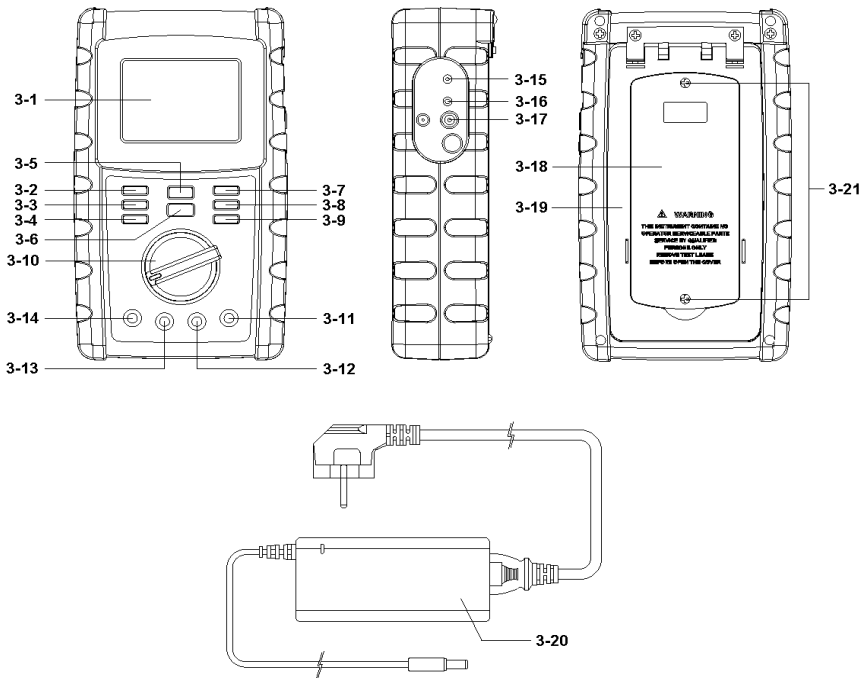

Fig. 1
- 1) Power on the instrument by rotate the "Power / Range rotary switch" ( 3-10, Fig. 1 ) to exit the " OFF " position and then select measuring range from 60000  $\mu\Omega$  to 6000  $\Omega$  according to your requirement.
- \* **At 60000  $\mu\Omega$  ( 10A ) must use DC 9V adapter from socket ( 3-17, Fig. 1 ).**
- \* Red cable ( with white O ring marker ) to " Force + " terminal ( 3-11, Fig. 1 )
- \* Red cable ( no white O ring marker ) to " Sense + " terminal ( 3-12, Fig. 1 )
- \* Black cable ( with white O ring marker ) to " Force - " terminal ( 3-14, Fig. 1 )
- \* Black cable ( no white O ring marker ) to " Sense - " terminal ( 3-13, Fig. 1 )
- 4) Press the "START / STOP" key ( 3-6, Fig. 1 ) will start measure the unknown device.
- 5) When your tested material has inductive, you can press " L/▲ " key ( 3-7, Fig. 1 ) for change to inductor mode ( at 600 mΩ and 60000 uΩ range ) , Display will showing " L " mark. normal is resistor mode.
Primary to press the " SET / TEST " ( 3-4, Fig. 1 ) button enter setting mode.
The last digit should flash at " Hi warning value " on the display . Then press " L / ▲ " buttons ( 3-7, Fig. 1 ) to increase or " COMP / ▼ " buttons ( 3-9, Fig. 1 ) to decrease digit that you want to alter large value,
press the " BEEP / ◀ " buttons (3-8 , Fig. 1) set warning value , When user to move 1st digit unit to next digit unit (10th, 100th. 1000th).
Finished (1) procedure then press the " SET / TEST " button ( 3-4, Fig. 1 ) again, The last digit should flash at " Lo warning value " on the display . Other operate way same above explain.
3) Finished (1)(2) procedure then press the " SET / TEST " button ( 3-4, Fig. 1 ) once . The function should return to TEST MODE and indicate measure value when clipping the resistor.
4) When measuring period press " COMP / ▼ " ( 3-9 , Fig. 1) button once, The display will show " GOOD " or " FAIL " symbol to inform be measure results.
*\* Press " BEEP / ◀ " ( 3-8, Fig. 1) button once will start buzzer, press once again to disable " BEEP " function.*
- 3)Press " HOLD " button ( 3-5, Fig. 1 ) to release HOLD status.
- 4)Press " SET / TEST " button ( 3-4 , Fig.1) more than three seconds into sample unit mode.
- 5)Then press " L / ▲ " button ( 3-7 , Fig.1) or " COMP / ▼ " button( 3-9 , Fig.1) to select unit (meter or feet).
- 6)Press " START / STOP " button ( 3-6 , Fig.1) to sampling unit value.
- 7)Press " SET / TEST " button ( 3-4 , Fig.1) to save the value and showing the cable length .
- 8)Once press "SET / TEST" button ( 3-4 , Fig.1) more than 3 seconds. Will return to measure mode .
The instrument has RS232 PC serial interface via a 3.5 mm terminal ( 3-15, Fig. 1 ).